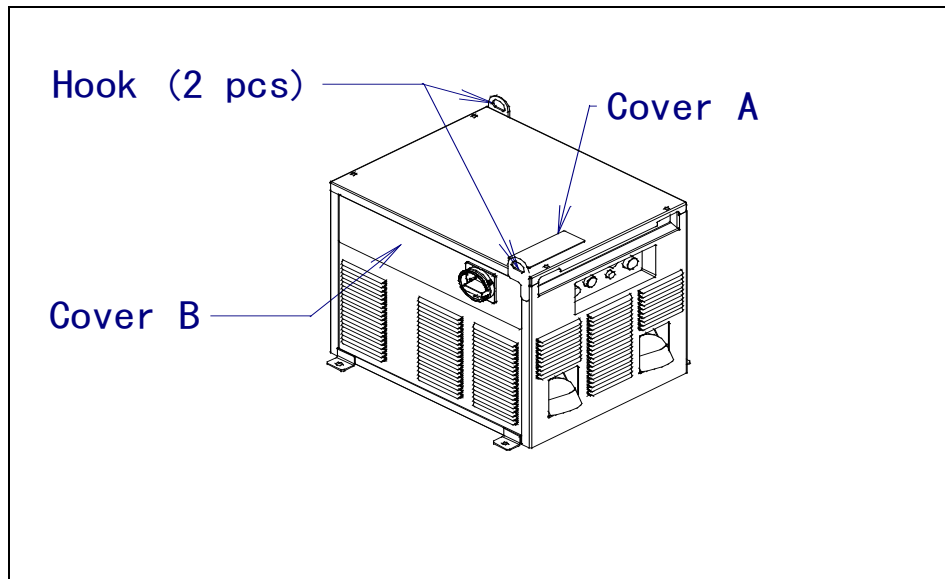

Fig. 12.1 (d) Connection of Power Wave i400 (4/7)
- 5 Put unified kit plate which is the right of the inside the controller and pass LAN cable and power cable. (See Fig. 12.1 (e).)